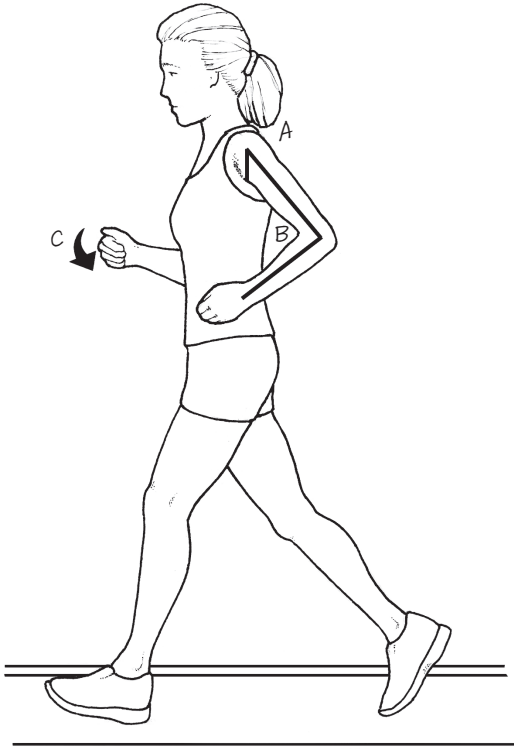

Fig. 4.17. Arm motions during stance phase. Note the angles of shoulder extension (A) and elbow flexion (B). The hand should never cross the midline (C).
Typically, during stance phase the shoulder is extended 45° (Fig. 4.17, A), while the elbow is flexed about 70° (Fig. 4.17, B).
There can be significant variation in the degree of elbow flexion, however, as typical ranges vary between 42 and 102° (23). While the degree of shoulder extension and elbow flexion don't correlate that strongly with efficiency, your hand should never cross the midline (Fig. 4.17, C), as excessive rotation of the torso does correlate with inefficiency (7).